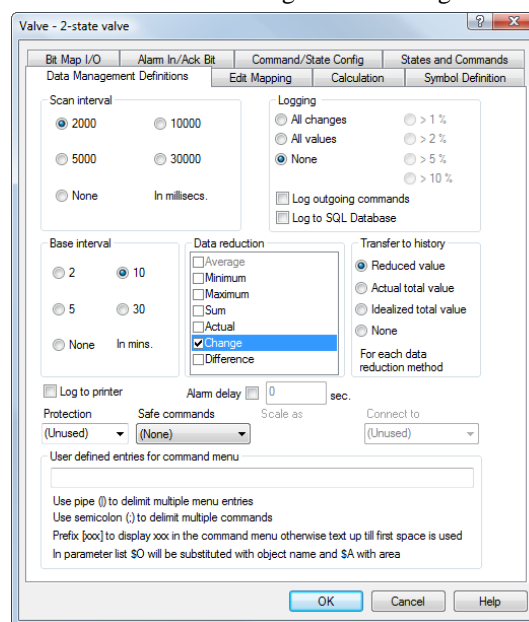

Figure 3.23 On the **Data Management Definitions** tab you define the data collection properties.
6.	Click the Data Management Definitions tab and set the Scan interval , Base interval and Data reduction to the settings shown in Figure 3.23.